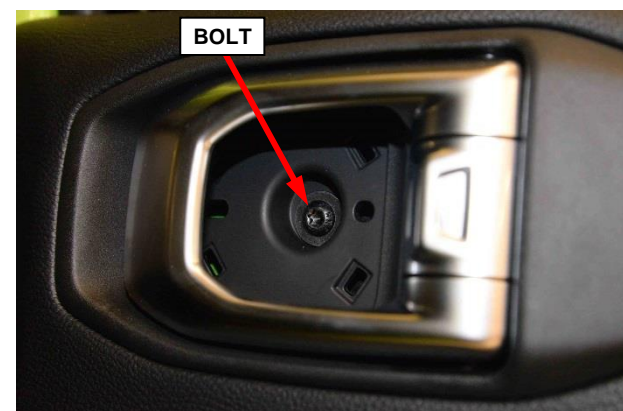

Figure 9 – Door Handle Bolt
13. Remove the bolt (Figure 9).